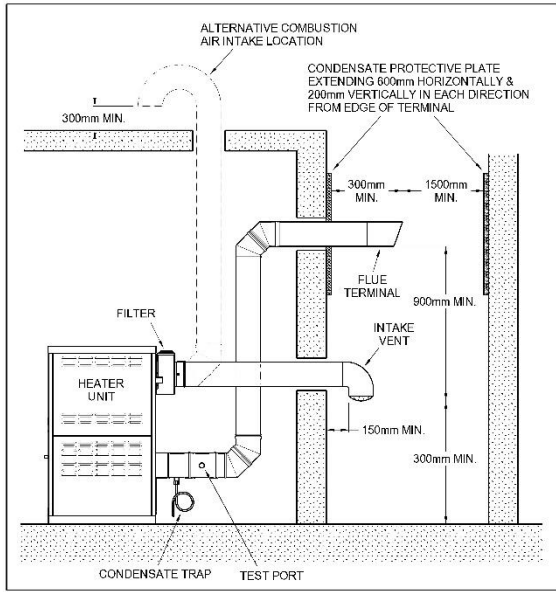
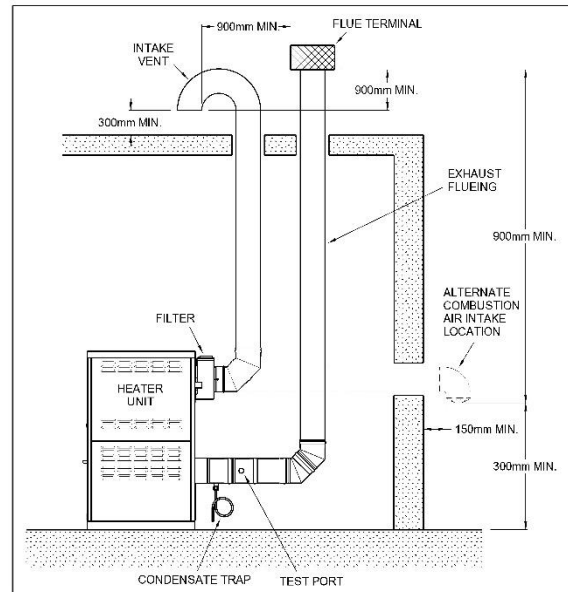

Fig 20: Horizontal Room Sealed Flueing
Fig 21: Vertical Room Sealed Flueing
1. Install combustion air intake pipe in accordance with Fig. 20 \(horizontal\) or Fig. 21 \(vertical\) on page 51.